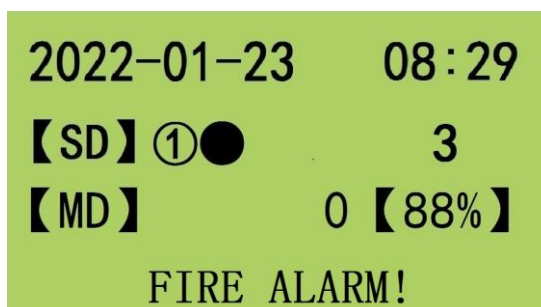

Figure9. LCD displays content when spark alarm happens
The alarm sounds intermittently. The alarm page is shown in figure9. Figure 9 shows "【SD】①●", indicating the spark detector SD2 alarm. Press the key "ALARM RESET", alarm page will turn to working page.